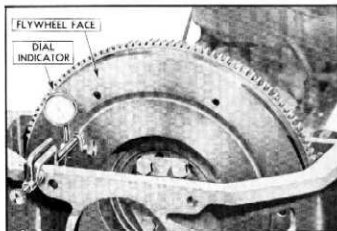

Fig. 62—Checking Flywheel Runout
- On all models except 1950-53 Powerglide models, mount a dial indicator on the clutch housing so that the button of the indicator will contact the machined surface of flywheel (fig. 62), and check the flywheel runout.